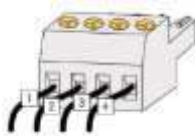

Fig. 4-47 Secure the cable
- 3) Secure the cable to the terminal base (Fig. 4-47).